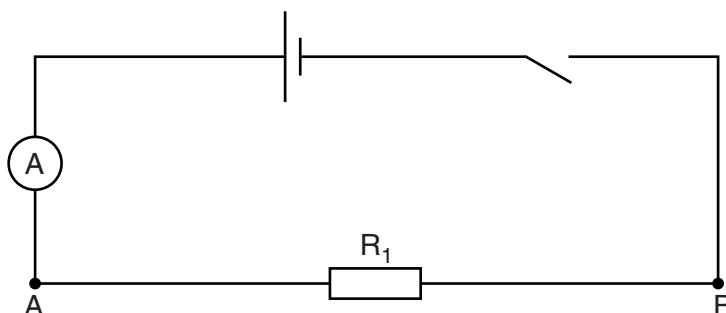

Fig. 3.1
Four connecting leads to enable the Supervisor to set up the circuit shown in Fig. 3.1. The points A and B should be labelled.
4. Before the start of the experiment and at the changeover, the Supervisor should set up the circuit as shown in Fig. 3.1. The resistor R_2 , the voltmeter and the further four connecting leads should be laid out on the bench.